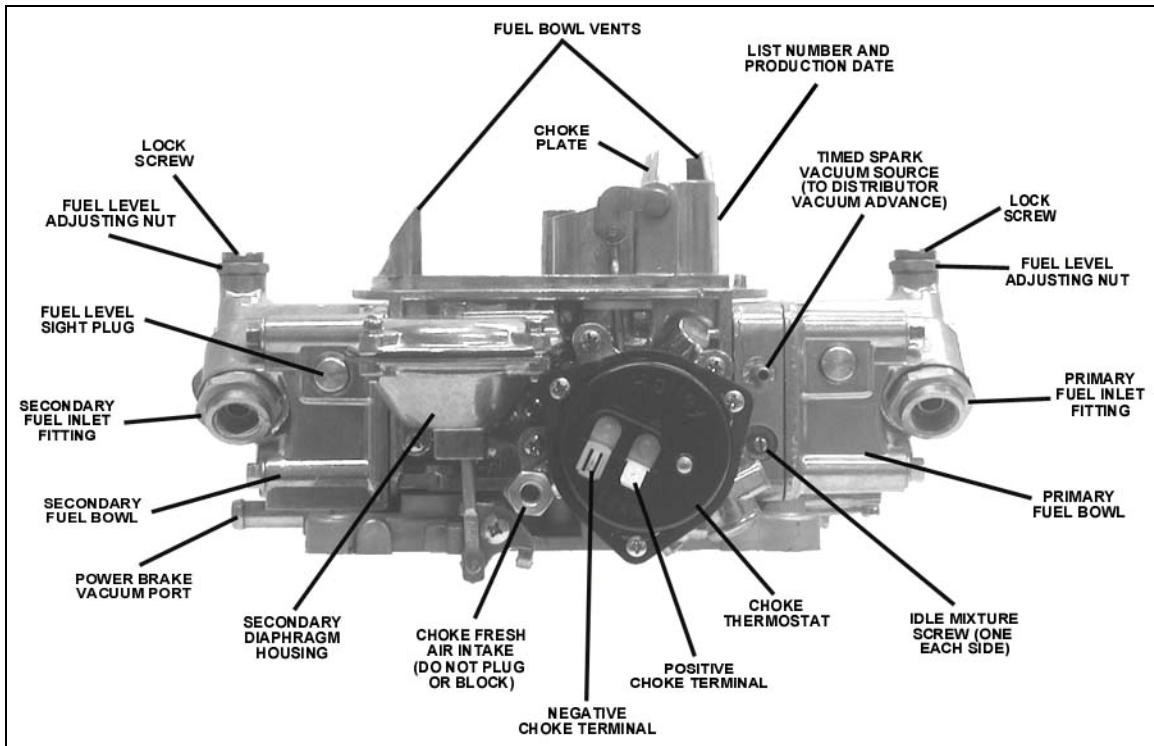

Figure 6a (0-80508S shown)
6. Reconnect the appropriate vacuum hoses to the carburetor, noting the correct fitting from Figure 6a and 7. Replace any cracked or dry rotted hoses at this time to prevent any vacuum leaks.